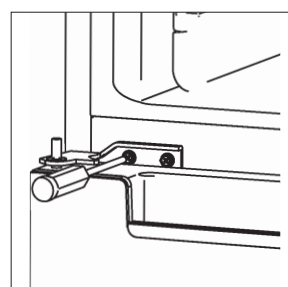

Fig. 14
- ▶ Screw on the lower hinge (8) using the four retaining screws.
- ▶ Screw in the appliance feet (9).
- ▶ Stand the appliance upright again. Next, level the appliance by screwing the appliance feet (9) in or out as required.
- ▶ Now place the freezer compartment door (7) on the lower hinge (8) by positioning the recess at the bottom of the freezer compartment door (7) onto the pin.
- ▶ Keep the freezer door (7) closed.
- ▶ Position the middle hinge (6) on the left-hand side.
- ▶ Place two washers on the pin of the middle hinge and place the pin in the freezer compartment door (7).
- ▶ Secure the middle hinge (6) using the two screws and a Phillips screwdriver (Fig. 14).